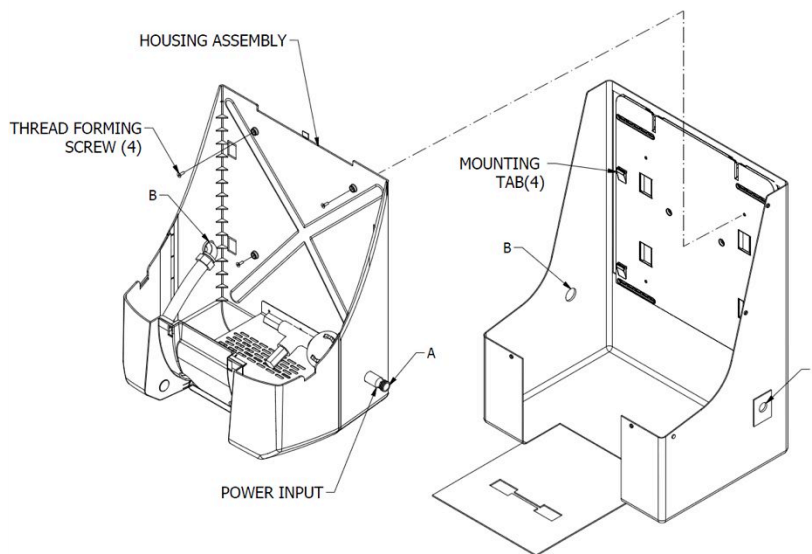

FIGURE 3
Step 2. Housing Assembly (Ref Figure 3)
C. Secure Housing using Thread Forming Screw (4) provided.